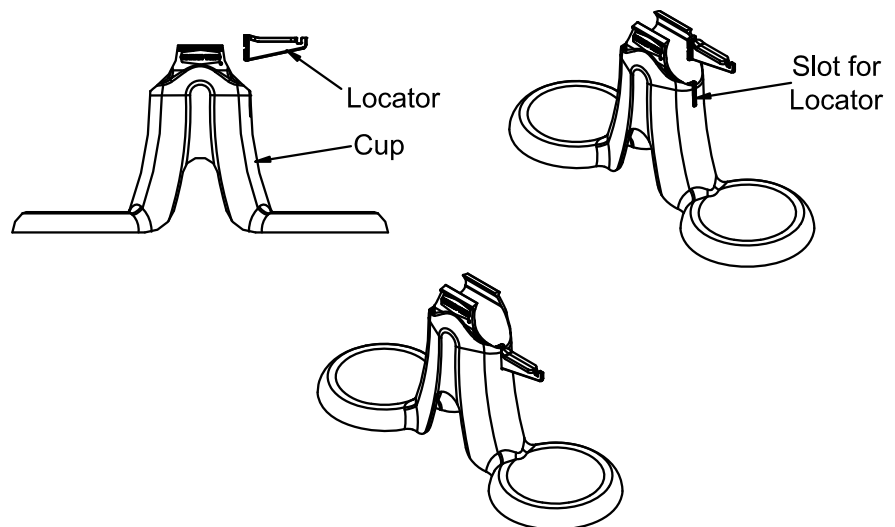

Figure 9. Locator Installation
1. Install the locator to the cup as shown, see **figure 9**.